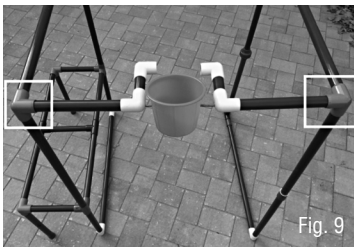

Fig. 9
9. Attach the Dump Bucket Assembly to the waterpark structure as shown (Fig. 9).